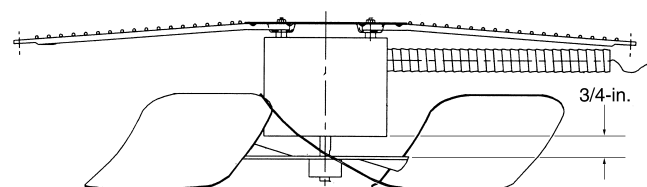

Fig. 24 — Condenser-Fan Adjustment
Condenser-Fan Adjustment (Fig. 24)
3. Adjust fan height as shown in Fig. 24.